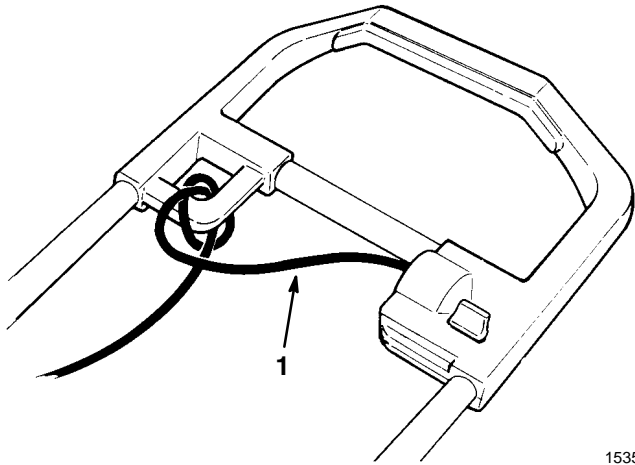

Figure 6
9. To prevent disconnection of snowthrower cord from extension cord during operation, tie extension cord to loop in upper handle before connecting to snowthrower; refer to page 8, Figure 6 for proper procedures.
- Before connecting the extension cord to the snowthrower, tie the extension cord to the loop in the handle as shown in Figure 6. This helps to prevent the extension cord from pulling out of the snowthrower during operation.